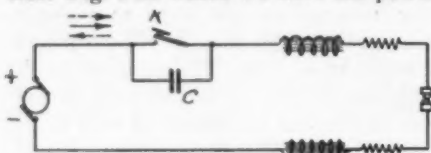

Fig. 1. Circuit Breaker with Condenser Shunt
The principle underlying this particular application is the use of condenser circuits shunting the key contacts. Consider Fig. 1 in which we have the power
line including the interrupting key  $K$ . The key is shunted by a condenser  $C$ . Experiment shows that when the circuit is broken and an arc is formed at the key contacts this arc is of the same nature as the Poulsen arc used for the generation of continuous wave oscillations, and that radio frequency oscillations are set up in the condenser circuit shunting the key contacts. These radio frequency currents oscillate at a frequency determined by the capacity of condenser  $C$  and the inductance in the condenser circuit which, in the case of Fig. 1, is the inductance of the connecting leads only. Now this radio frequency current which results from the formation of the arc at the key contacts flows through the condenser and the arc. We thus have two currents flowing through the arc at the key contacts: (1) the main supply current due to the generator, which current flows through the arc in one direction only as shown by the arrow in full line, and (2) the radio frequency